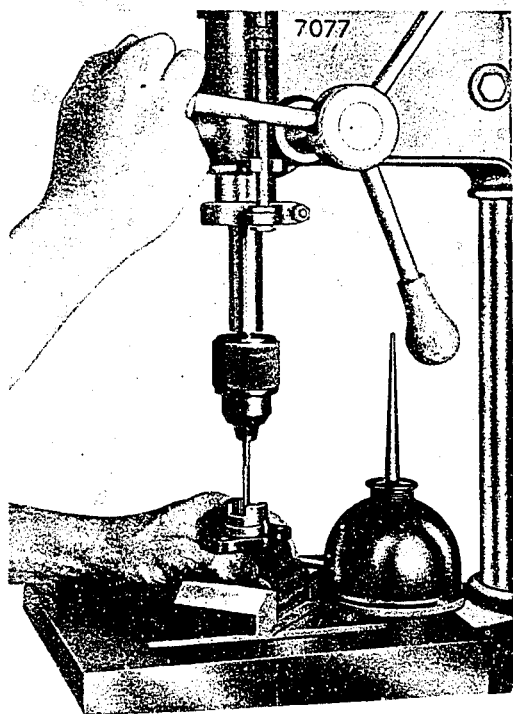

FIGURE 8 - DRILLING OR REAMING SPINDLE BORE
2. Clamp the supply pump housing securely in position beneath the drill (Refer to Figure 8).